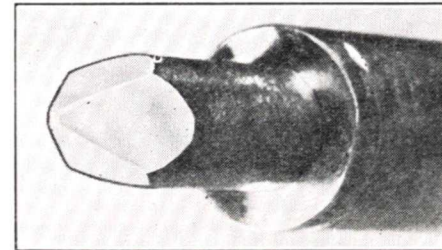

FIG. 10. Close-up photograph showing a properly tinned soldering iron tip. Note that only the flat surfaces of the copper tip are tinned.
*Step 3. To complete the tinning of your soldering iron,* file the remaining flat surfaces of the heated soldering iron tip until bright. Rub rosin-core solder (Part 1-3) over the surfaces. Wipe off surplus solder with a cloth, then apply additional rosin-core solder to those parts of the surfaces where solder did not adhere. Repeat until these surfaces are completely tinned, then do the same for any other surfaces which are not completely tinned. Your soldering iron should now be completely tinned on all four surfaces as shown in Fig. 10.